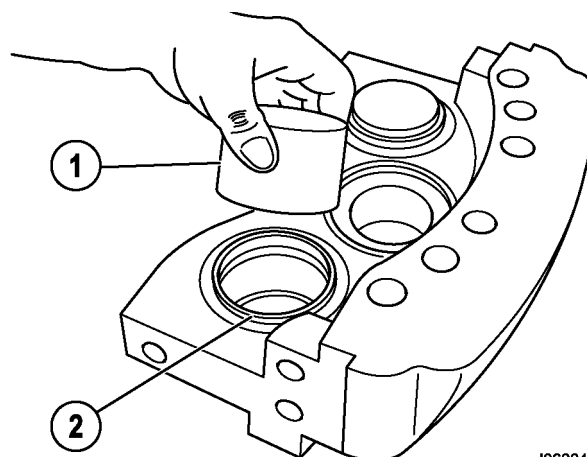

FIGURE 50-44. SERVICE PISTONS
- 19. Use a suitable dowel or drift to push both piston assemblies (1, Figure 50-44) out of each caliper housing.
- 20. Use a suitable tool to remove two dust seals (2) from the caliper housing. Discard the dust seals.